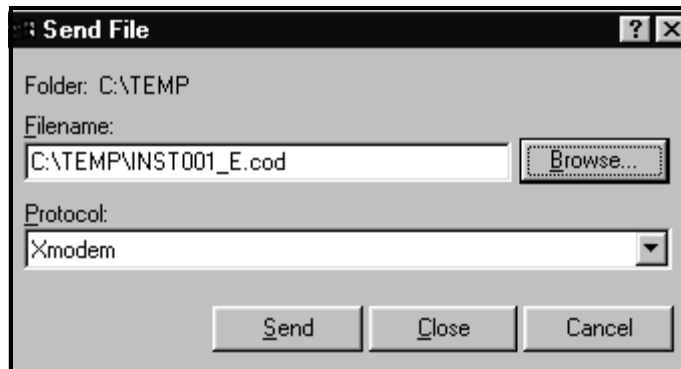

Figure 160: The Send File Window in the Transfer Menu
1. In the Hyperterminal window, pull down the Transfer menu and click *Send File*. A window opens similar to Figure 160 below.